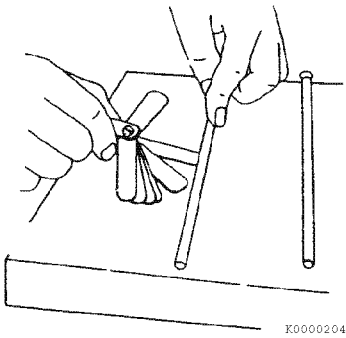

Figure 6-14
3. Use a feeler gauge to measure the gap (**Figure 6-14**). See *Push Rod* on page 6-6 for the service limit.